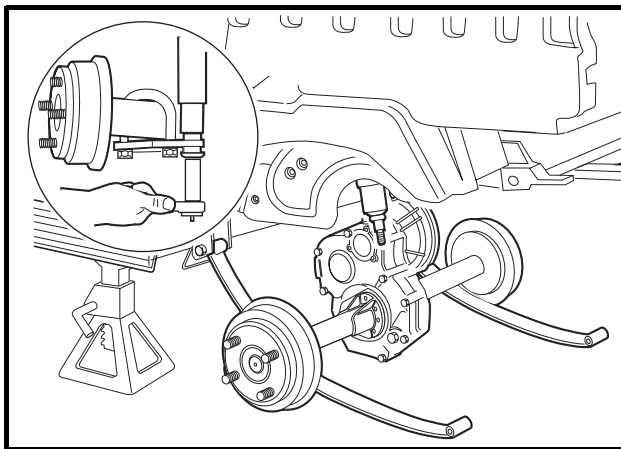

Figure 22b-3 Lower Axle
9. Remove the four bolts that mount the motor to the transaxle (**Figure 22b-24, Page 22b-15**). See following **CAUTION**.